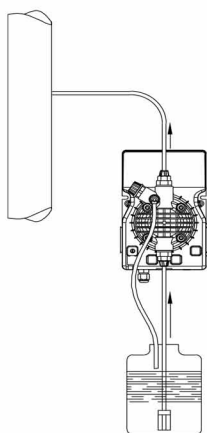
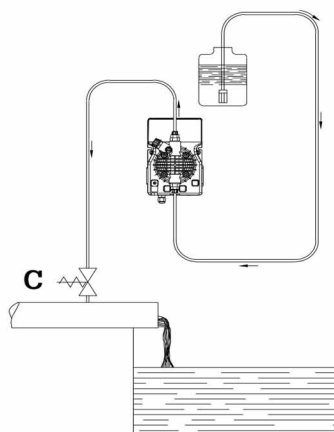

Fig. 5
Fig. 6
- c. - Locate the pump as shown in fig. 5 bearing in mind that it may be installed either below or above the level of the liquid to be dosed, though the level difference should not exceed 2 meters. When the process plant in which the pump is installed is operating at atmospheric pressure (no back pressure) and the chemical tank is situated above the plant (Fig. 6), the condition of the injection valve should be checked at regular intervals, because excessive wear and tear could cause additive to drip into the plant even when the pump is shut down. If the problem persists, install a properly calibrate counter-pressure valve (C) between injection point and the valve. In the case of liquids that generate aggressive vapours, do not install the pump above the storage tank unless the latter is hermetically sealed.